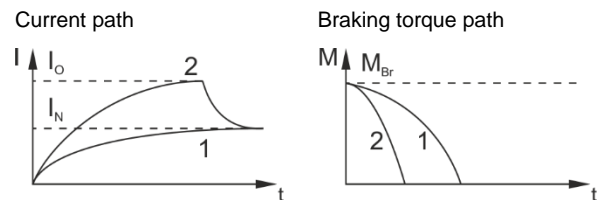

Fig. 4
If the magnetic coil (7) is energised with nominal voltage using a half-wave or bridge rectifier, the coil current does not immediately reach its nominal value. The coil inductivity causes the current to increase slowly as an exponential function. Accordingly, the build-up of the magnetic field takes place more slowly and the braking torque drop (curve 1 / Fig. 4) is also delayed.
A quicker drop in braking torque is achieved if the coil is temporarily placed under a higher voltage than the nominal voltage, as the current then increases more quickly. Once the brake is released, it needs to be switched over to the nominal voltage (curve 2 / Fig. 4). The relationship between overexcitation and separation time t_2 is roughly indirectly proportional, meaning that at doubled nominal voltage the separation time t_2 for release of the brake is halved. The ROBA®-switch fast acting rectifier and phase demodulator work on this principle.